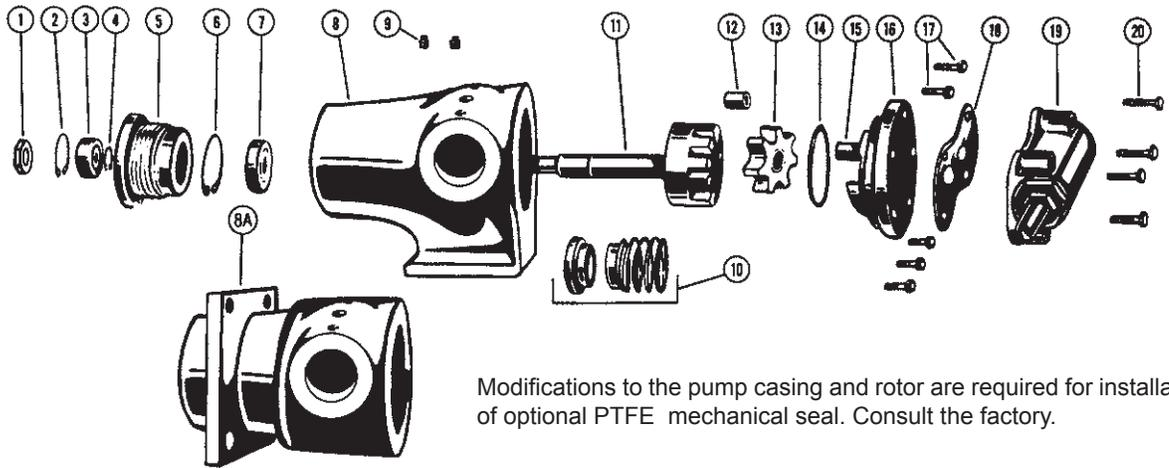

FIGURE 7 - EXPLODED VIEW FOR MODELS G, GG, H, HJ AND HL 4195 AND 495
1. Refer to **Figures 7 & 8**, page 5 for model to be disassembled and name of parts. Models 4195 & 495 are disassembled and assembled in the same manner. The difference between these models is the casings.